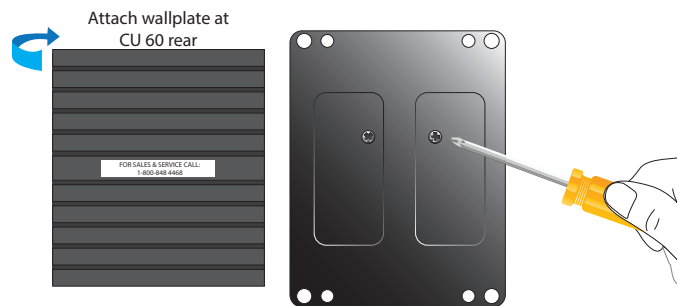

Fig. 3.4
5. Attach the CU to the CU wall plate using the provided hardware (see Fig. 3.4).